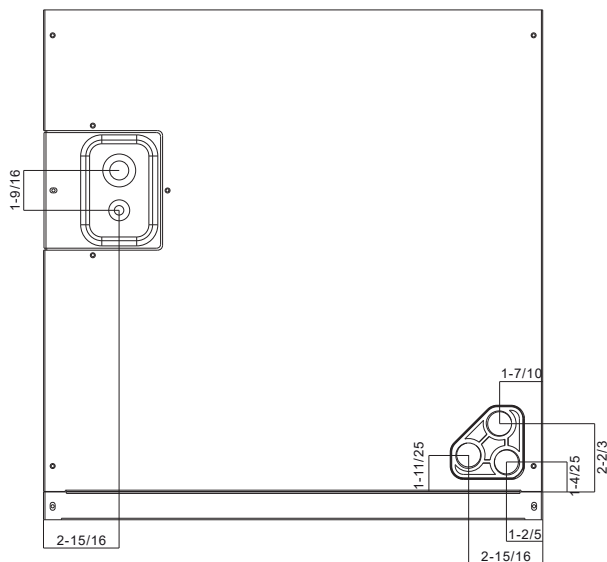

Fig.9 DIMENSIONS FOR FRONT CONNECT COIL
- 1) Vertical Upflow configuration is the factory set on all models (see Fig 9)